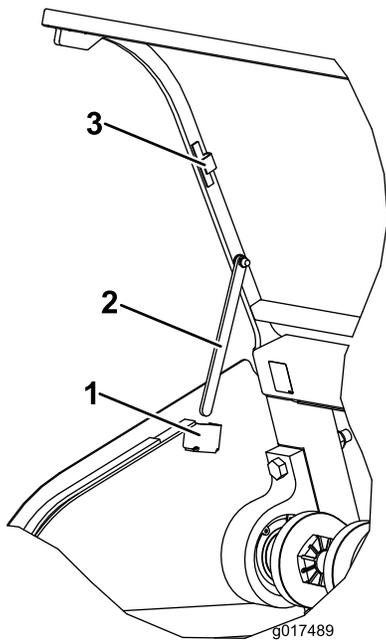

Figure 33
3. On each side of the hood, pivot the prop rod down from magnetic storage bracket and insert it into the prop rod catch (Figure 33).